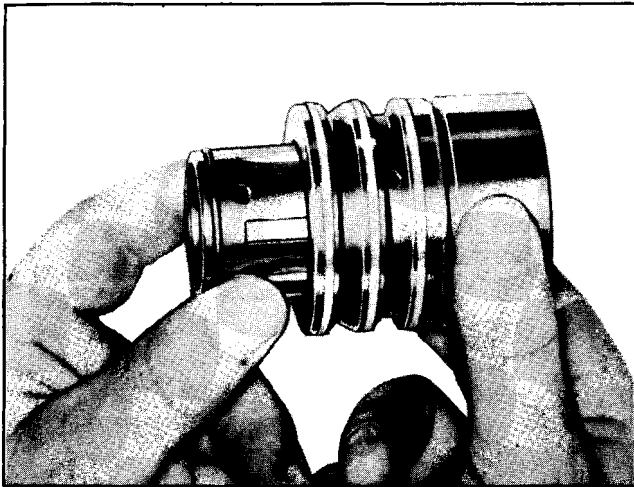

Fig. 9-93 Removing Spool Valve
3. Push the spool valve out of the flush end of the valve body until the dampener "O" ring is exposed, then carefully pull the spool from the valve body, while rotating the valve (Fig. 9-93). If the spool valve becomes cocked, carefully realign the spool valve, then remove.